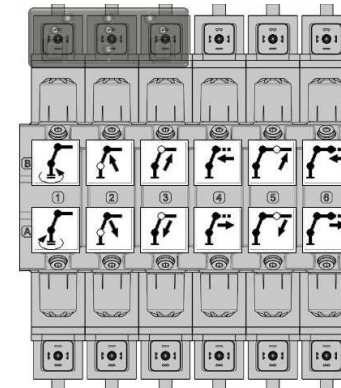

Figure 74. DA-module in progress to be placed.
3. Move the cursor, without releasing the left mouse button, to the designated position on the valve block – a larger grey semi-transparent figure of the DA-module shows up, see Figure 74.